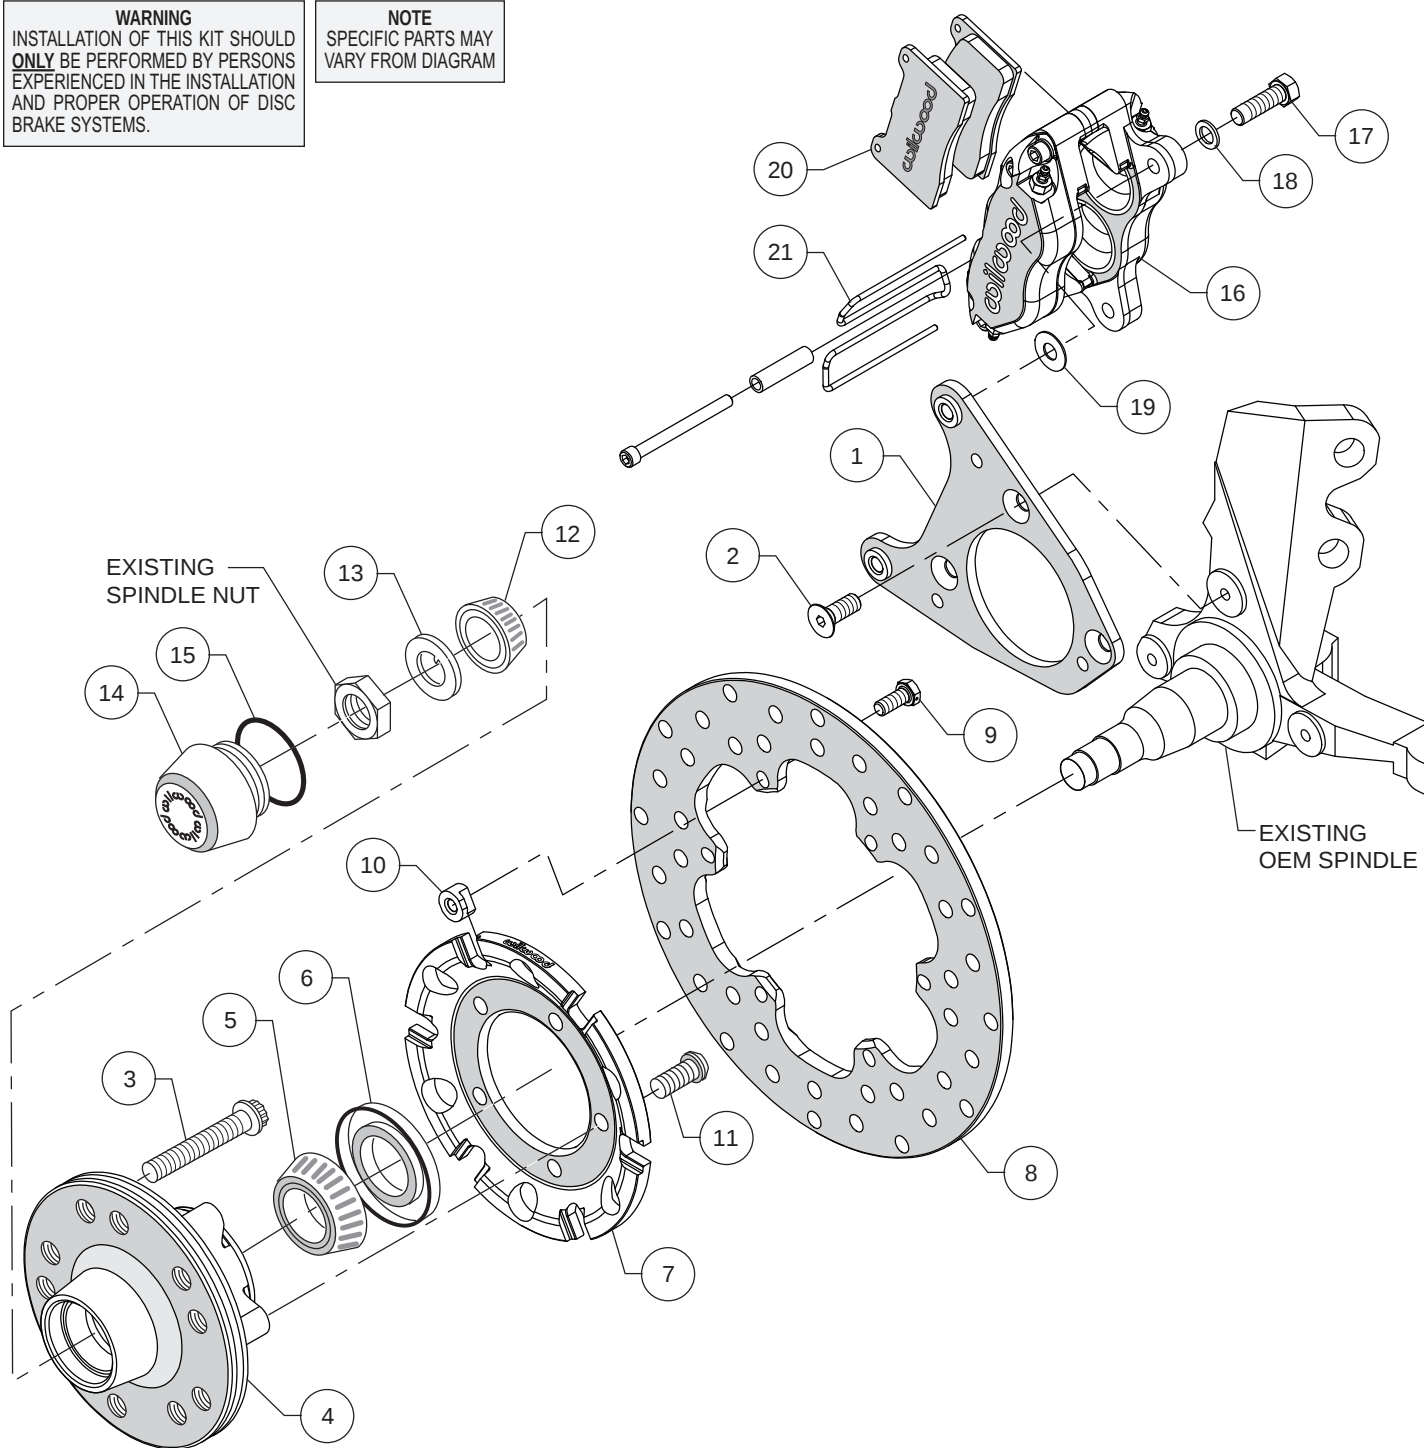
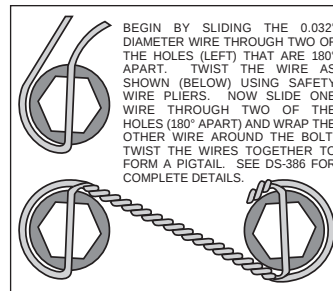
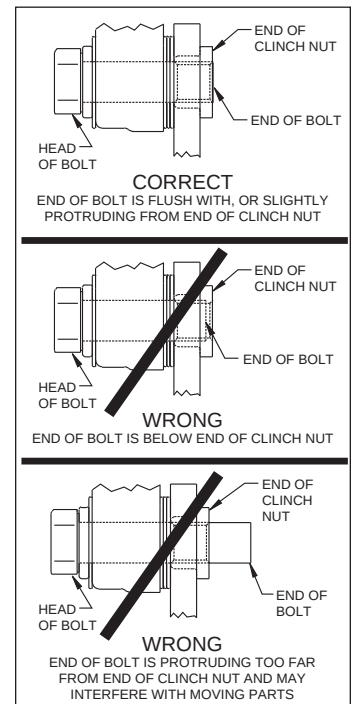

Figure 1. Typical Installation Configuration
Figure 3. Safety Wire Diagram
Figure 4. Clinch Nut Engagement Diagram
Assembly Instructions (numbers in parenthesis refer to the parts list, on the preceding page and Figure 1): **CAUTION:** All mounting bolts must fully engage clinch nuts. Be sure to check that all bolts are either flush or protruding through flanged side of clinch nut after shimming, Figure 4.
- Orient the caliper mounting bracket (1) as shown in Figure 1 and Photo 2. Attach using bolts (2), Figure 1. Temporarily tighten the mounting bolts. Ensure that the flanged heads of the clinch nuts in the bracket are facing outboard, Photo 2. **NOTE:** The bracket must fit squarely against the mounting points on the spindle. Inspect for interference from casting irregularities, machining ridges, burrs, etc. Remove bolts one at a time, apply red *Loctite*® 271 to threads and torque to 40 ft-lbs.
- Install wheel studs (3) into the hub (4), Photo 3. Torque to 77 ft-lb. **NOTE:** There are two five lug patterns in the hub (5 x 4.50 and 5 x 4.75). Ensure the correct hub stud pattern is being used to fit the wheel application.
- Pack the large inner bearing cone (5) with high temperature disc brake bearing grease (available from your local auto parts store) and install into the backside of the hub (4), Photo 4.
- Install the grease seal (6) by pressing into the backside of the hub (4), flush with the end of the hub, Photo 4.
- Orient the rotor (8) and the rotor adapter (7) as shown in Figure 1 and Photo 5. Attach the rotor to the adapter using bolts (9) and T-nuts (10). Using an alternating sequence, apply red *Loctite*® 271 to the threads, and torque to 120 in-lb. Safety wire bolts using standard 0.032 inch diameter stainless steel safety wire as shown in Figure 3. Refer to Wilwood's data sheet DS-386 (available at www.wilwood.com/Pdf/DataSheets/ds386.pdf) for complete safety wire installation instructions.
- Mount the adapter/rotor assembly (7 and 8) to the hub (4) using bolts (11), as shown in Figure 1 and Photo 6. Using an alternating sequence, apply red *Loctite*® 271 to the threads and torque to 45 ft-lb.
- Pack the small outer bearing cone (12) with high temperature disc brake bearing grease and install into hub (4). Slide the hub/rotor assembly onto the spindle. Secure using spindle washer (13) and OEM spindle nut, Photo 7. Adjust bearings per OEM specifications. Install saved OEM nut lock (if any) and a new cotter pin (not included).
- Screw dust cap (14) into hub (4), Photo 8. Friction created by the o-ring (15) on the dust cap keeps it from unscrewing. **NOTE:** The O.D. of the existing OEM spindle washer may be larger than the I.D. of the dust cap not allowing it to seat against the hub face. Therefore, use the spindle washer (13) supplied with the kit instead of the OEM washer.
- NOTE:** Please reference the caution statement at the beginning of the assembly instructions. Mount the caliper (16) onto the caliper mounting bracket (1) using bolts (17) and washers (18), as shown in Figure 1. Initially place one .035" thick shim (19) on each bolt between the caliper and the bracket, Photo 9. Temporarily tighten the mounting bolts and view the rotor (8) through the top opening of the caliper. The rotor should be centered in the caliper, Photo 10. If not, adjust by adding or subtracting shims (19) between the bracket and the caliper. Always use the same amount of shims on each of the two mounting bolts. **NOTE:** The end of each bolt must be flush with or slightly protruding from the head of the clinch nut, as shown in Figure 4. If necessary place spare shims (19) between washer (18) and caliper mounting ear to achieve the proper clinch nut engagement. Once the caliper alignment and clinch nut engagement are correct, remove the bolts one at a time, apply red *Loctite*® 271 to bolt threads, and torque to 40 ft-lb. For an added measure of security, the bolts may be safety wired using standard 0.032 inch diameter stainless steel safety wire as shown in Figure 3. Refer to Wilwood's data sheet DS-386 (available at www.wilwood.com/Pdf/DataSheets/ds386.pdf) for complete safety wire installation instructions.
- Install the disc brake pads (20) into the caliper, with the friction material facing the rotor (8), Photo 11, and secure in place using pad retainer clip (21), Photo 12.